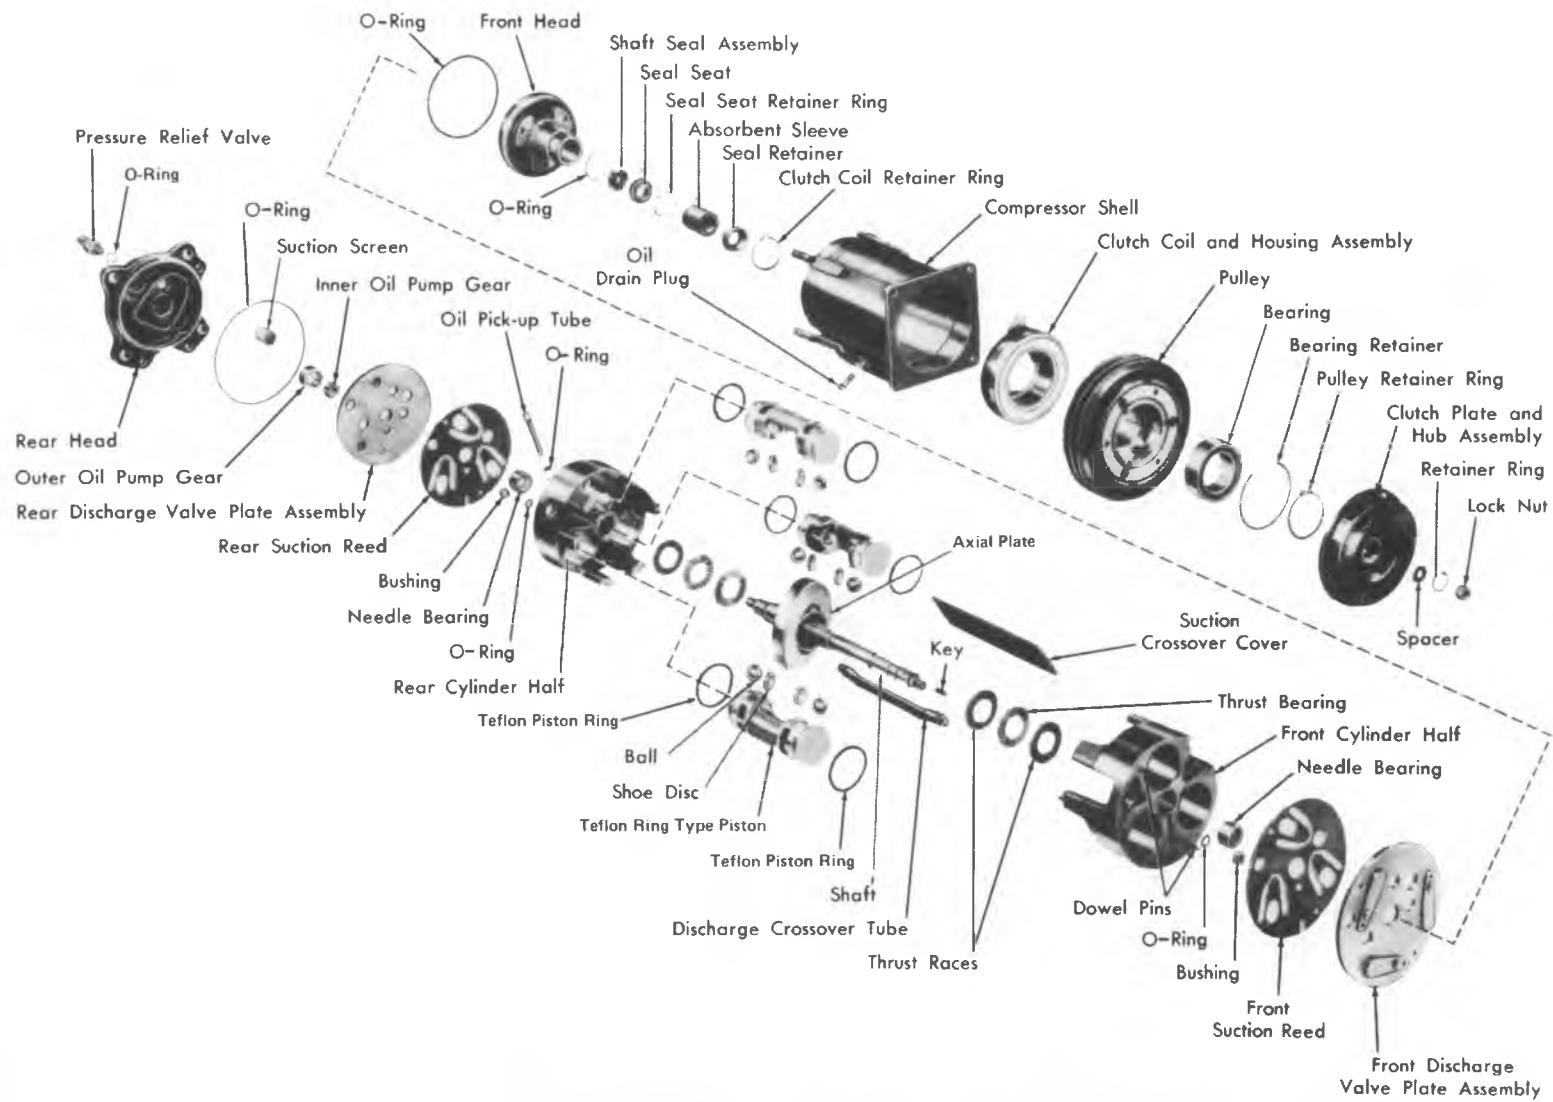
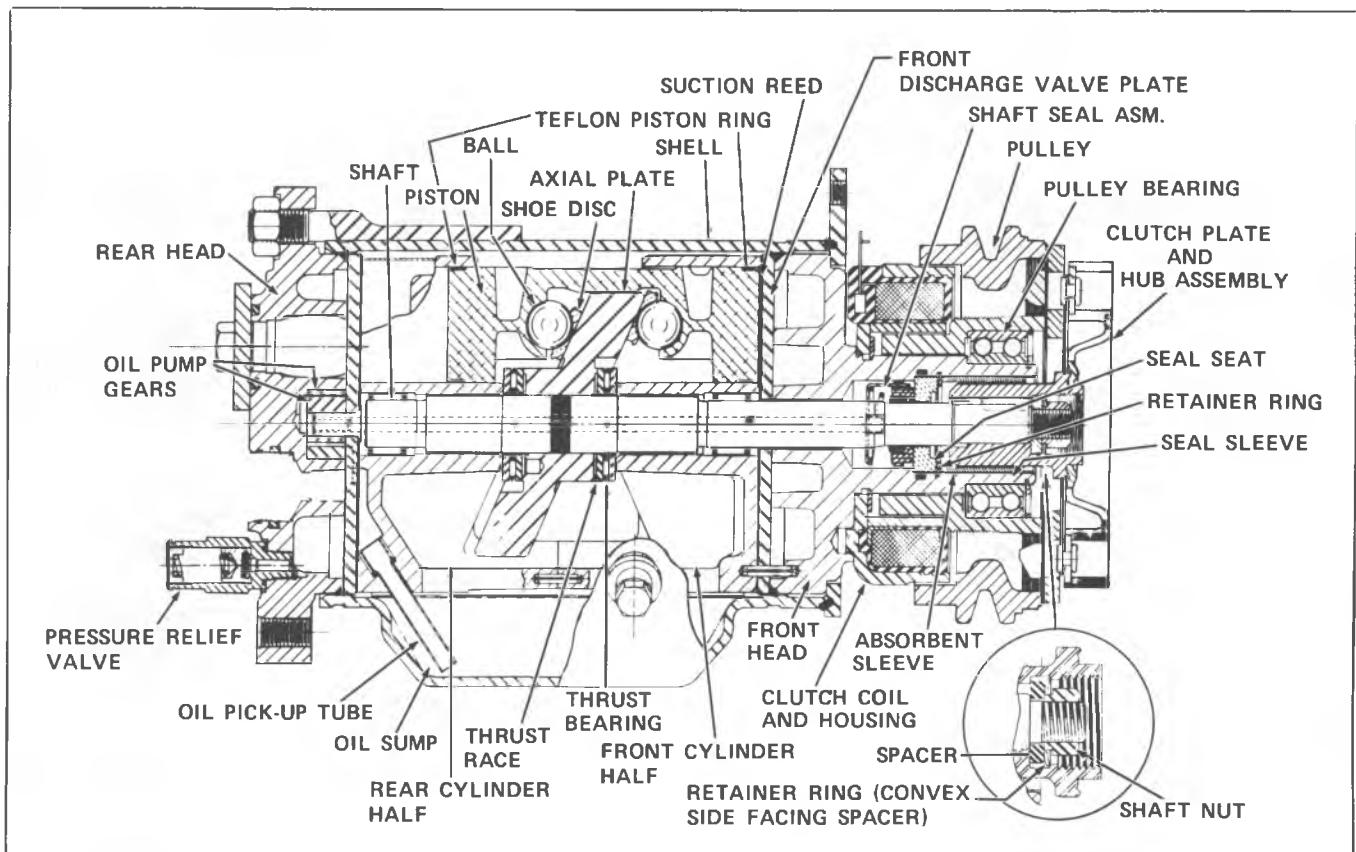

Fig. 1-Exploded View of A-6 Compressor
Fig. 2-A-6 Compressor Cross Section
When servicing the compressor, remove only the necessary components that preliminary diagnosis indicates are in need of service. Refer to Fig. 1 and Fig. 2 for information relative to parts nomenclature and location.
5. Install the hub spacer and, using Snap-Ring Pliers J-5403 (#21), install the retainer ring (see installed Retainer Ring in inset of Fig. 2), with convex side of ring facing spacer.